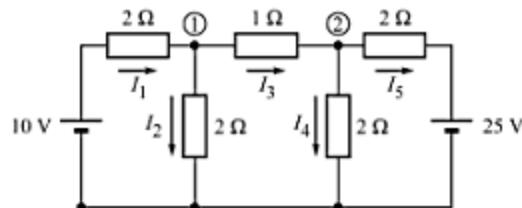

Fig. 3.82
24. For the circuit shown in Fig. 3.82, determine currents  $I_1$  to  $I_5$  by using node-voltage analysis.